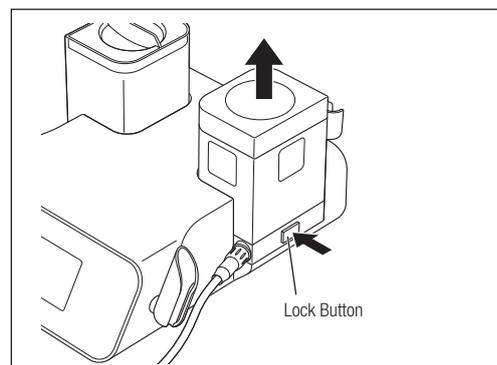

Fig. 42
- 3) Push the Lock Button to remove the Chamber. Then pull up the Chamber straight (Fig. 42).